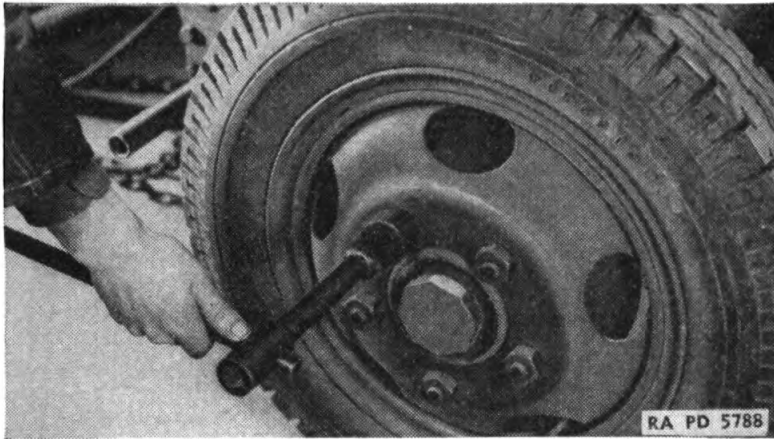

FIGURE 71.—Socket wrench for removal of wheels.
**78. Removal of wheels from carriages.**—The socket wrench and handle (fig. 71) are used to remove the nuts which secure the wheel in place. The wheel stud nuts on the left side of the carriage have left-hand threads, while the wheel stud nuts on the right side of the carriage have right-hand threads. By removing the five stud nuts the wheel and tire can be removed.